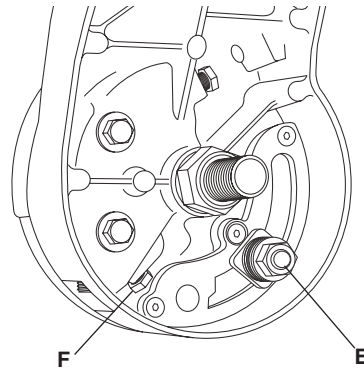

Figure 8b. Left 45° Bevel Adjustment
5. Place 10mm open-end wrench on bolt head "F". While rotating bolt "F", watch blade tilt movement until it is aligned with the 45° surface on combination square. (Figure 8b)
2. Place 17mm open-end flat wrench on bolt head "E" (Figure 8b).